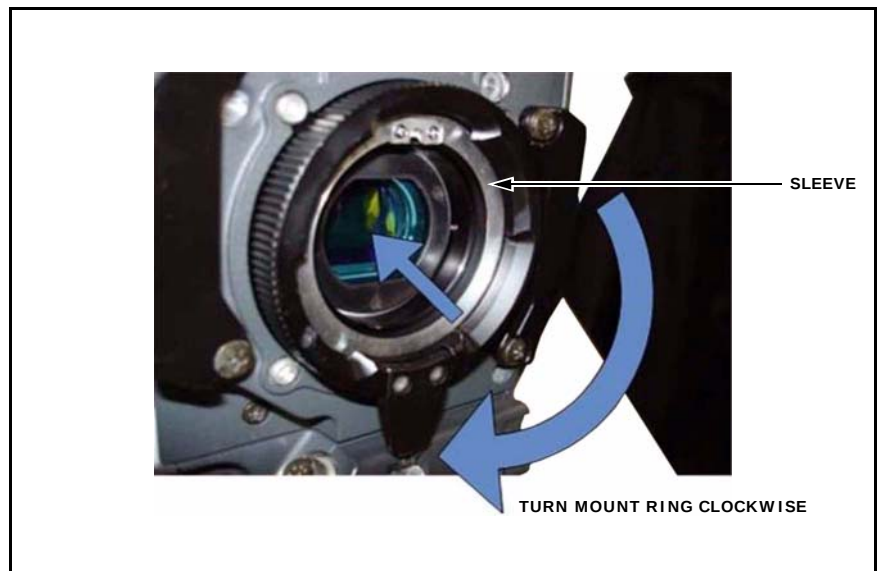

Figure 11
11. Turn the mount ring clockwise as far as it will go, and confirm that the sleeve moves back. (See Figure 11.)